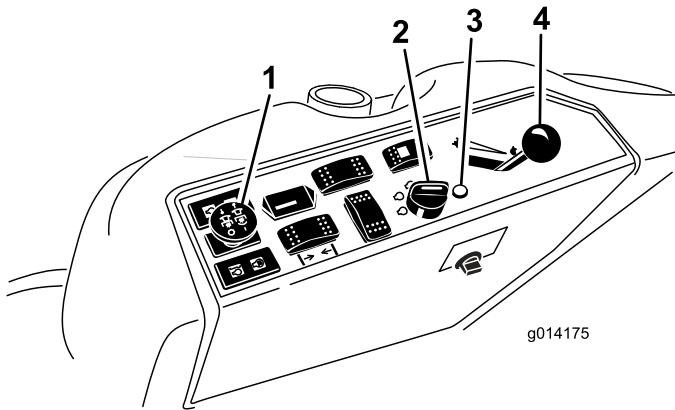

Figure 9
4. Move the PTO (power take off) switch to the off position (Figure 9).
5. Move the throttle lever midway between the Fast and Slow positions (Figure 9).